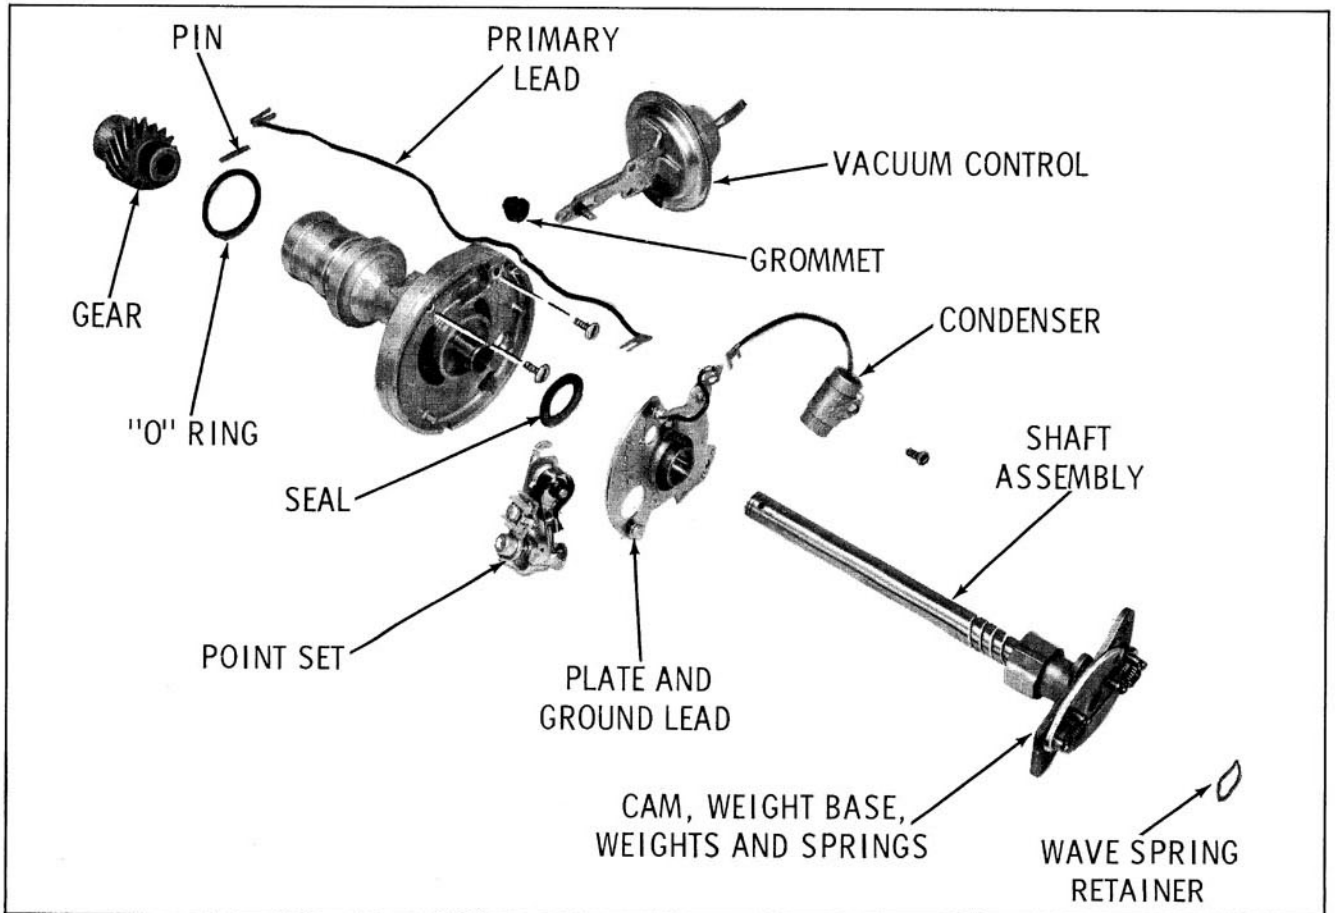

Fig. 13-74 Distributor Disassembled
4. Remove the retaining ring from the upper bushing and lift the breaker plate and felt wick from the bushing. (Fig. 13-74)